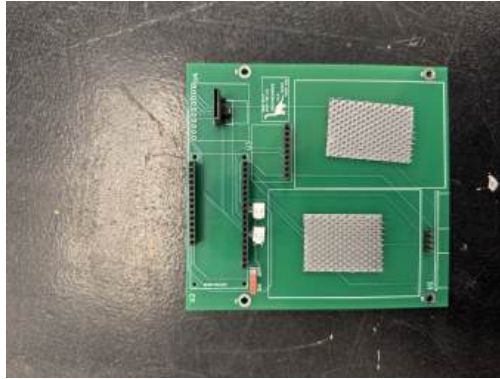

Figure 4: A PCB containing all the components that need to be soldered to it.
- Solder the small mox connector to the footprints labeled BT1 and BT2. The PCB suggests soldering with the plastic pin sticking out towards the switch (in case of confusion, refer to Figure 4)
The PCB with all the components soldered to it should look as in Figure 4.